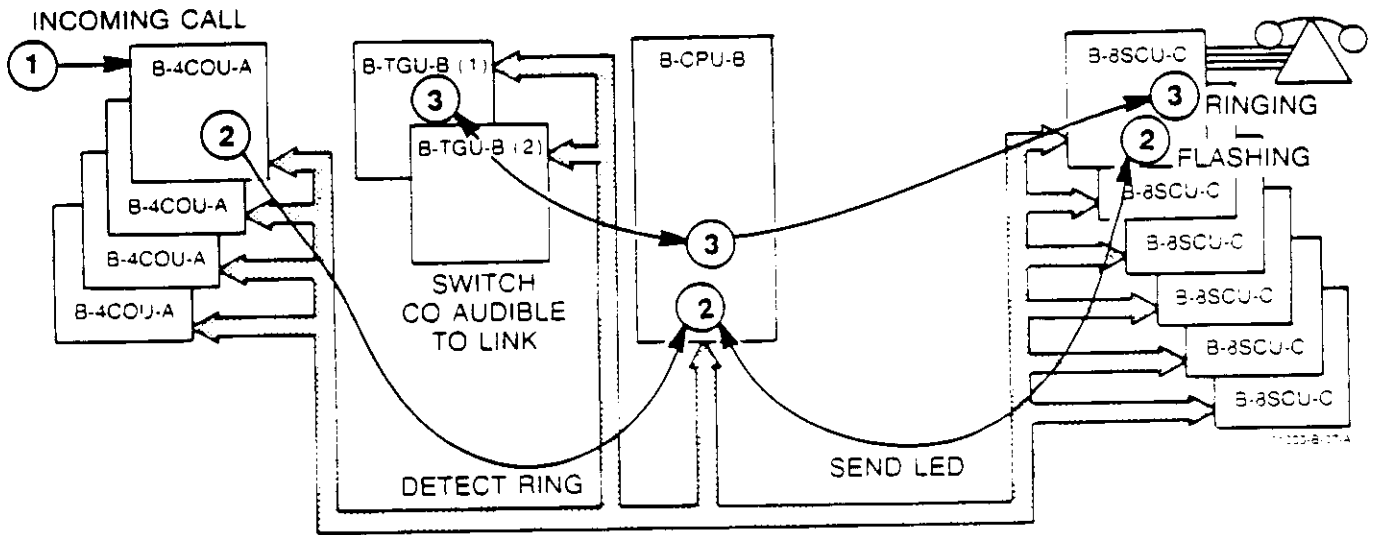

Figure 8-18 RECEIVING AN OUTSIDE CALL. EK-824/1232/1648 (Page 1 of 2)
5.01 An incoming call from the Central Office or PBX will send ringing into the system. This ringing is detected in the B-4COU-A PCB to which the line is connected (Figure 8-18, signal 1). As the B-CPU-B polls the B-4COU-A PCBs, it sees the ring detect, processes it, and sends a flashing LED to all the multibutton stations in the system (Figure 8-18, signal 2).
5.02 The B-CPU-B PCB has the responsibility of sending audible ringing into the station B pairs. The tone used for CO audible is generated on the B-TGU-B PCB, and connected to an on-board DTMF Tone Matrix. The ZSU executive, through the Matrix Control, tells the DTMF Tone Matrix to connect CO audible to an intercom link (Figure 8-18, signal 3). The B-8SCU-C PCB connects the station B pair to the ringing link. The ZSU also controls the timing (on/off) of the CO audible tone bursts. As long as the multibutton station is idle, ringing will be broadcast from the speaker.